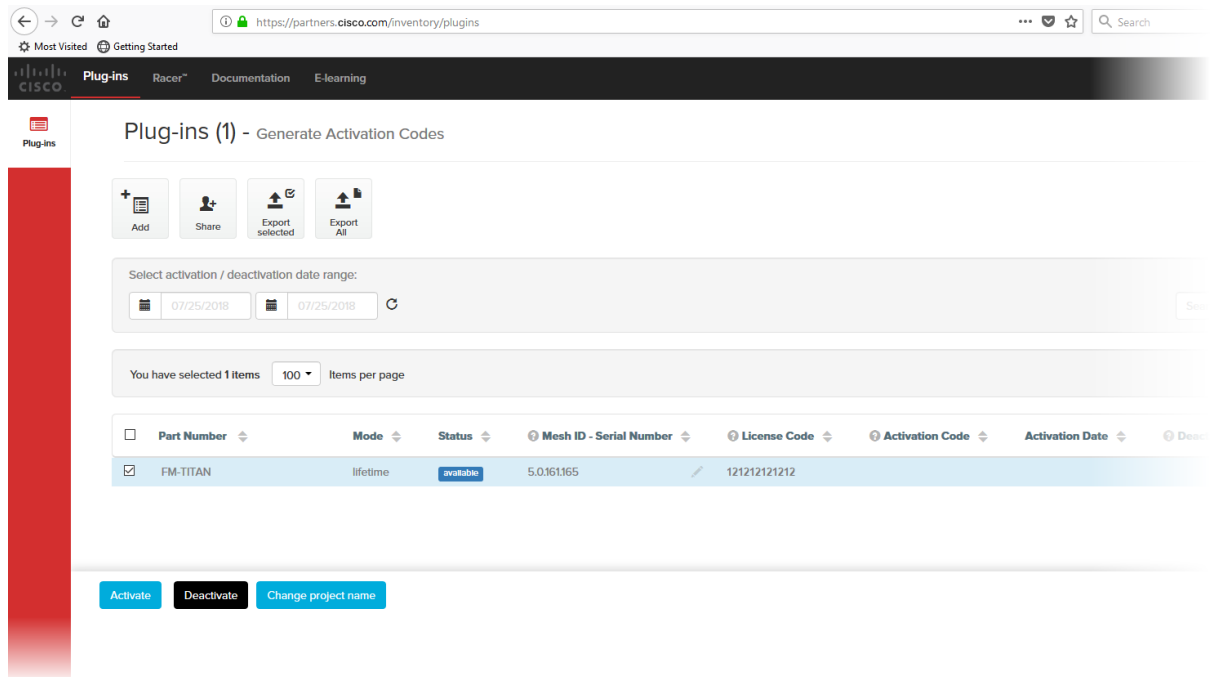

Figure 66. Partner Portal Plug-ins page (License code plug-in)
- When you purchase a generic 16-digit *License code*, the License code and corresponding plug-in will be listed on the Plug-ins page (Figure 66 \(page 146\)).